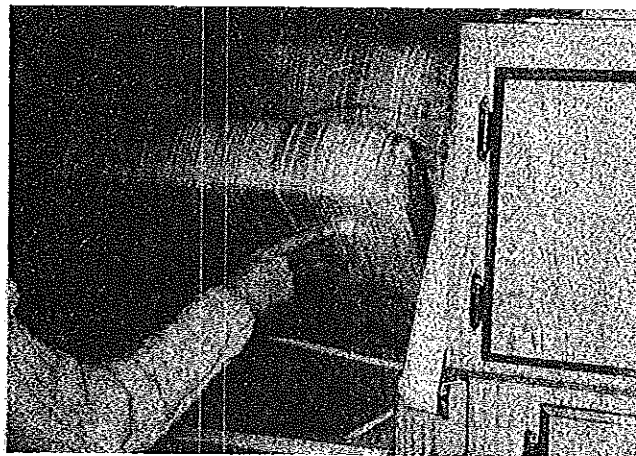

FIGURE 28
31a. On models with a rear dinette, lift the backrest off the dinette table and slide the seat cushion inboard. Set the backrest in place against the side wall. Slide the seat cushion in place, making sure that the plastic stops are wedged firmly against the interior of the metal seat frame. (See Figure 28.)
To lift dinette seat, be certain to push the seat cushion firmly toward the backrest wall before lifting in order to prevent inadvertent damage to the plastic stops. See Figure 28.
14. Remove the backrests from their positions. Slide the seat cushions outboard and place the backrests, cushion side down, on the stored dinette table. See Figure 28.